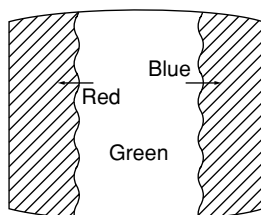

Figure 2-1-2
4. Move the deflection yoke forward and adjust so that the entire screen is green. (see figure 2-1-2)